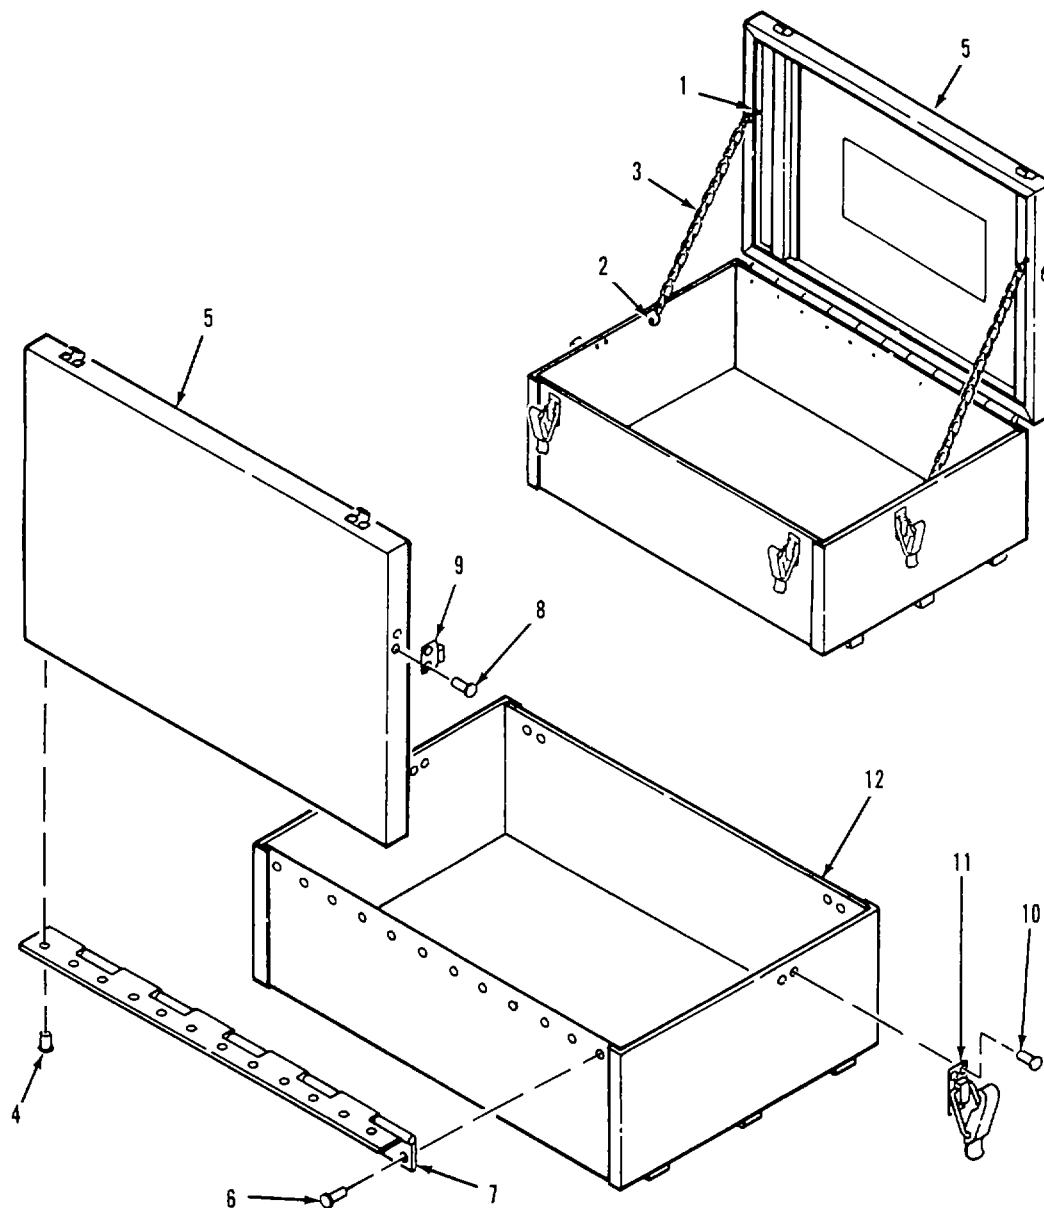

Figure 4-14. Storage Chest Assembly.
- e. Assembly. Refer to figure 4-14.
- (1) Aline hinge (7) with mounting holes in bottom (12) Using rivet tool, secure hinge to bottom with twelve rivets (6).
- (2) Aline lower clasp (11) with mounting holes in bottom (12) Using rivet tool secure lower clasp (11) with to bottom (12) with two rivets (10) Repeat for three remaining lower clasps.
- (3) Aline upper clasp (9) with mounting holes in cover (5) Using rivet tool, secure upper clasp (9) to cover (5) with two rivets (8) Repeat for three remaining upper clasps.
- (4) Aline mounting holes in cover (5) with hinge (7). Using rivet tool, secure cover to hinge with twelve rivets (4).
- (5) Connect chains (3) to S-hooks (2) in bottom (12). Using pliers, close S-hooks (2) to retain chains in place.
- (6) Connect other end of chains (3) to S-hooks (1) in cover (5). Using pliers, close S-hooks (1) to retain chains in place.
- (7) Close cover (5) and latch four lower clasps (11).